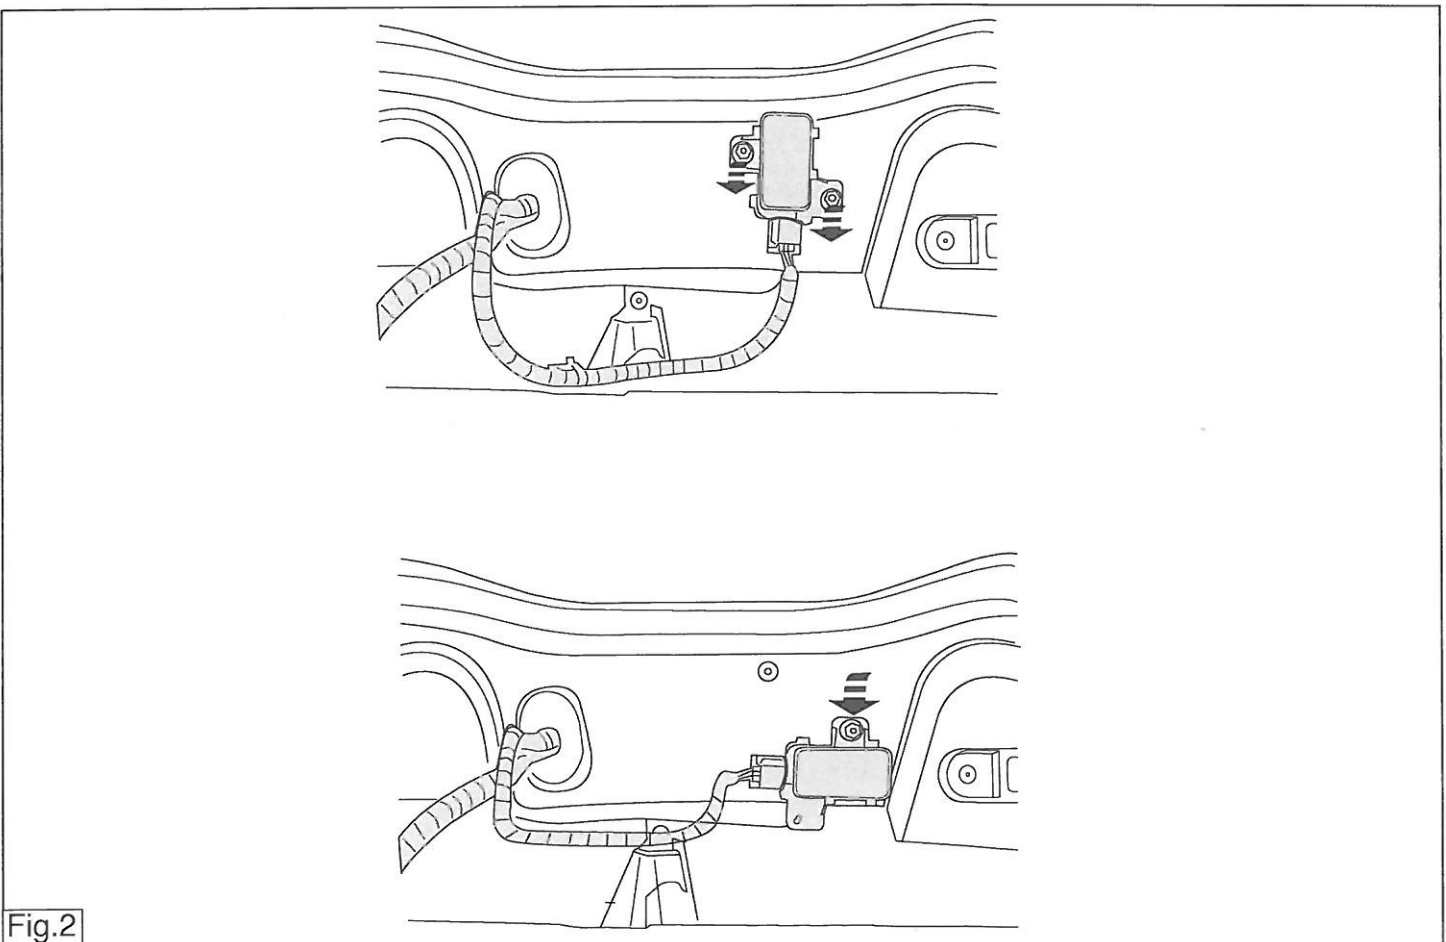

Fig.2
3. Please note: if present Remove the sensor and reattach after having turned it 90 degrees. See figure 2
- gedreht wieder befestigen. Siehe Abbildung 2